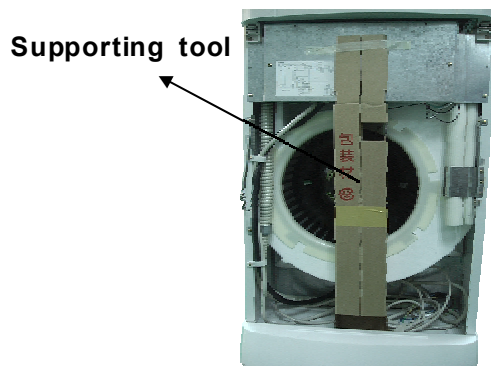

Fig 2
- 2.Remove the supporting tool.( Fig 2)